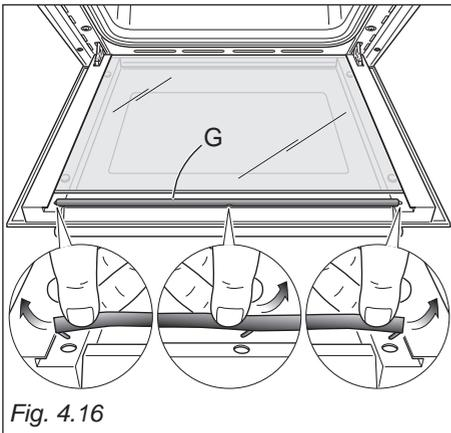

Fig. 4.16
- Remove the seal "G" by unhooking the no. 3 fixing hooks (fig. 4.16).